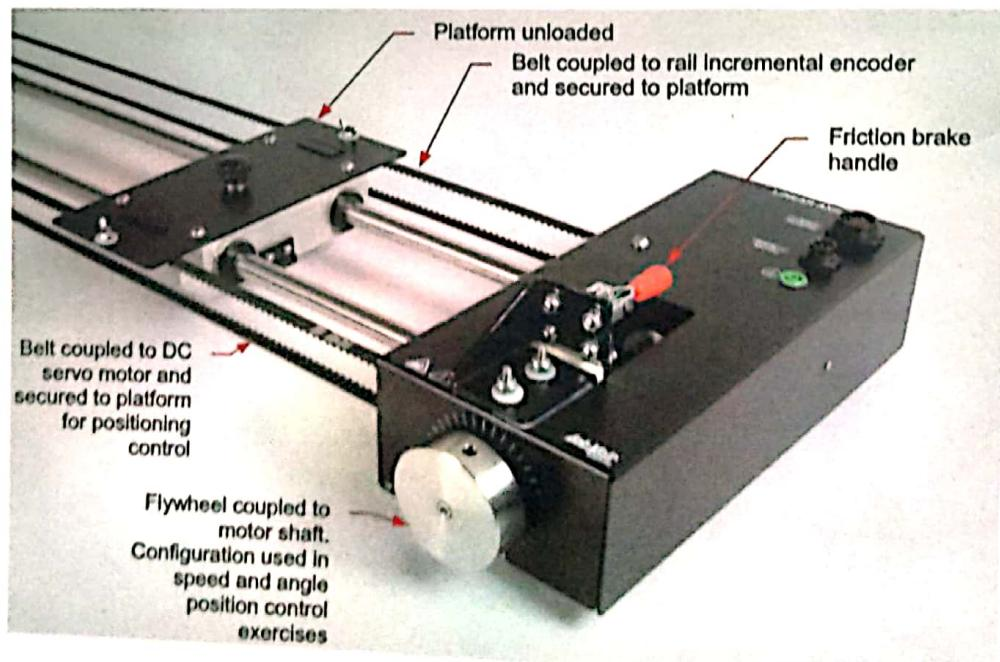

Figure 4. Flywheel coupled to motor shaft, platform unloaded.
5. Gently couple the flywheel to the shaft (see Figure 4) if it is not already so. A set screw mated to a hex key can be used to tighten the flywheel to the shaft.